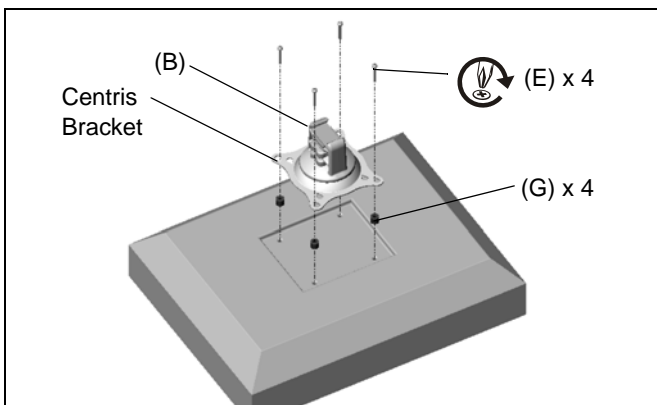

Figure 4
2. Place four M10 x 5.3 x 10 spacers (G) over each of the mount holes on the back of the display.
3. Place the Centris head (B) onto the spacers, aligning the mounting holes on the Centris bracket with the holes in the spacers. (See Figure 4)
4. Using Phillips screwdriver, install four M4 x 20 screws (E) through the mounting holes in Centris bracket, the spacers (G), into the display. (See Figure 4)
5. Tighten all four screws (E). Do not overtighten!